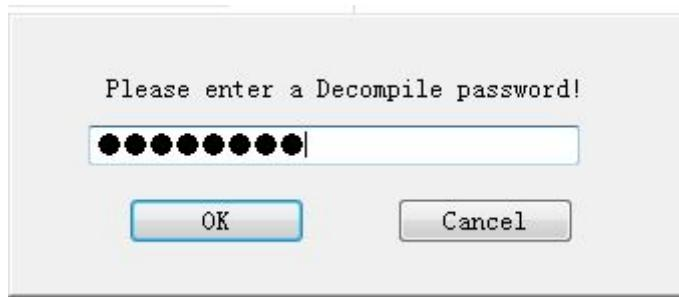

Fig. 18
- ② Enter the password for decompiling. The default password is “888888” which can be modified can viewed in the “General Setting” of the software, as shown in Fig. 18.